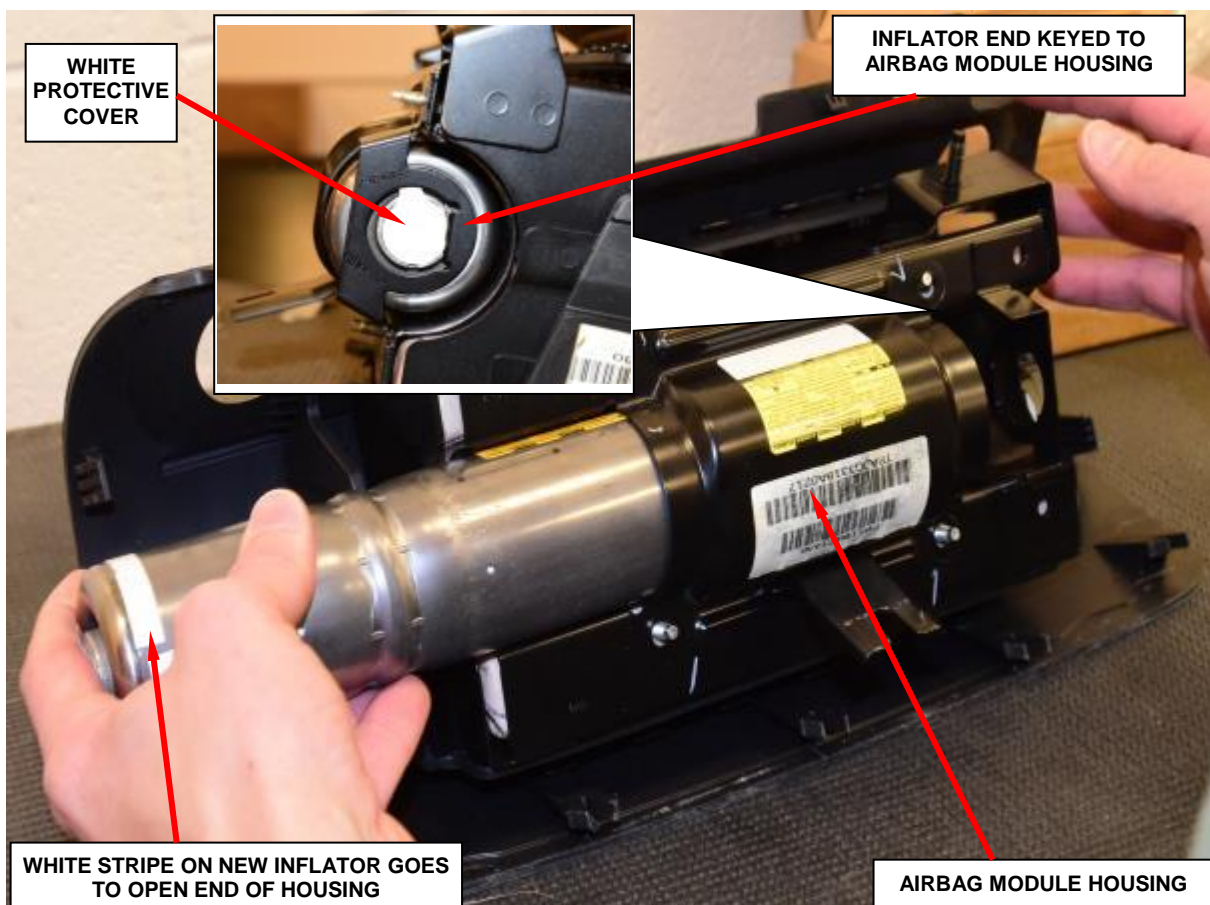

Figure 141 – Inflator Installation
NOTE: The inflator is keyed to fit into the housing. Ensure that when the new inflator is inserted, the keyed end goes in first (Figure 141).
- e. Slide the **NEW** inflator into the passenger airbag module housing. The keyed end is inserted first; therefore the white stripe on the **NEW** inflator will be located at the open end (Figure 141).